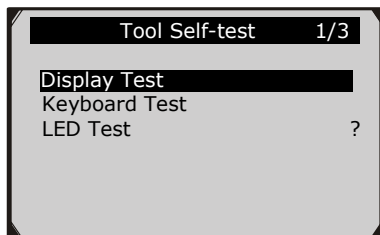

Figure 3.9
- 2) Select **Display Test** from **Tool Self-test** menu and press the **OK** button to start test. (Figure 3.9)